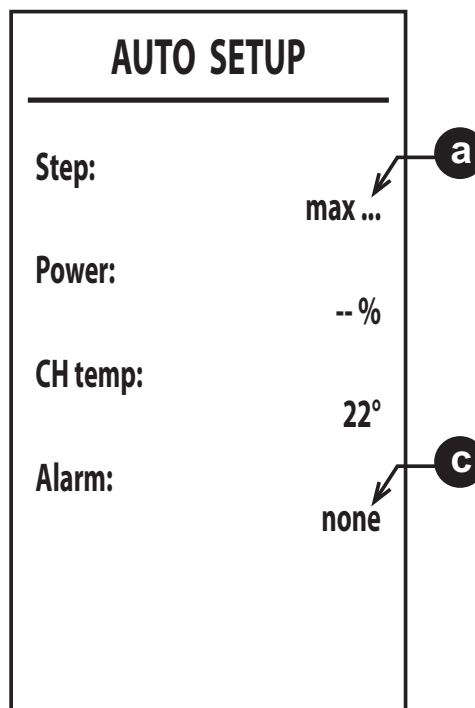

fig. 41
6. After ignition, the burner goes to heating at the various powers (max, med, min) indicated by point **a** (fig. 41).
8. If the ignition sequence described in point "6" is not successful, the message **max_err** at point **a** and an error code at point **c** will appear (fig. 41).